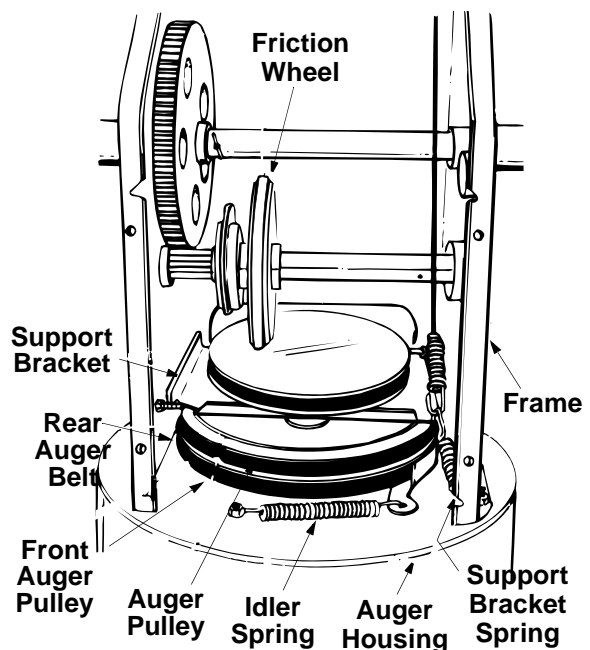

Figure 30
6. Unhook the idler spring from the hex bolt on the auger housing. See Figure 30.